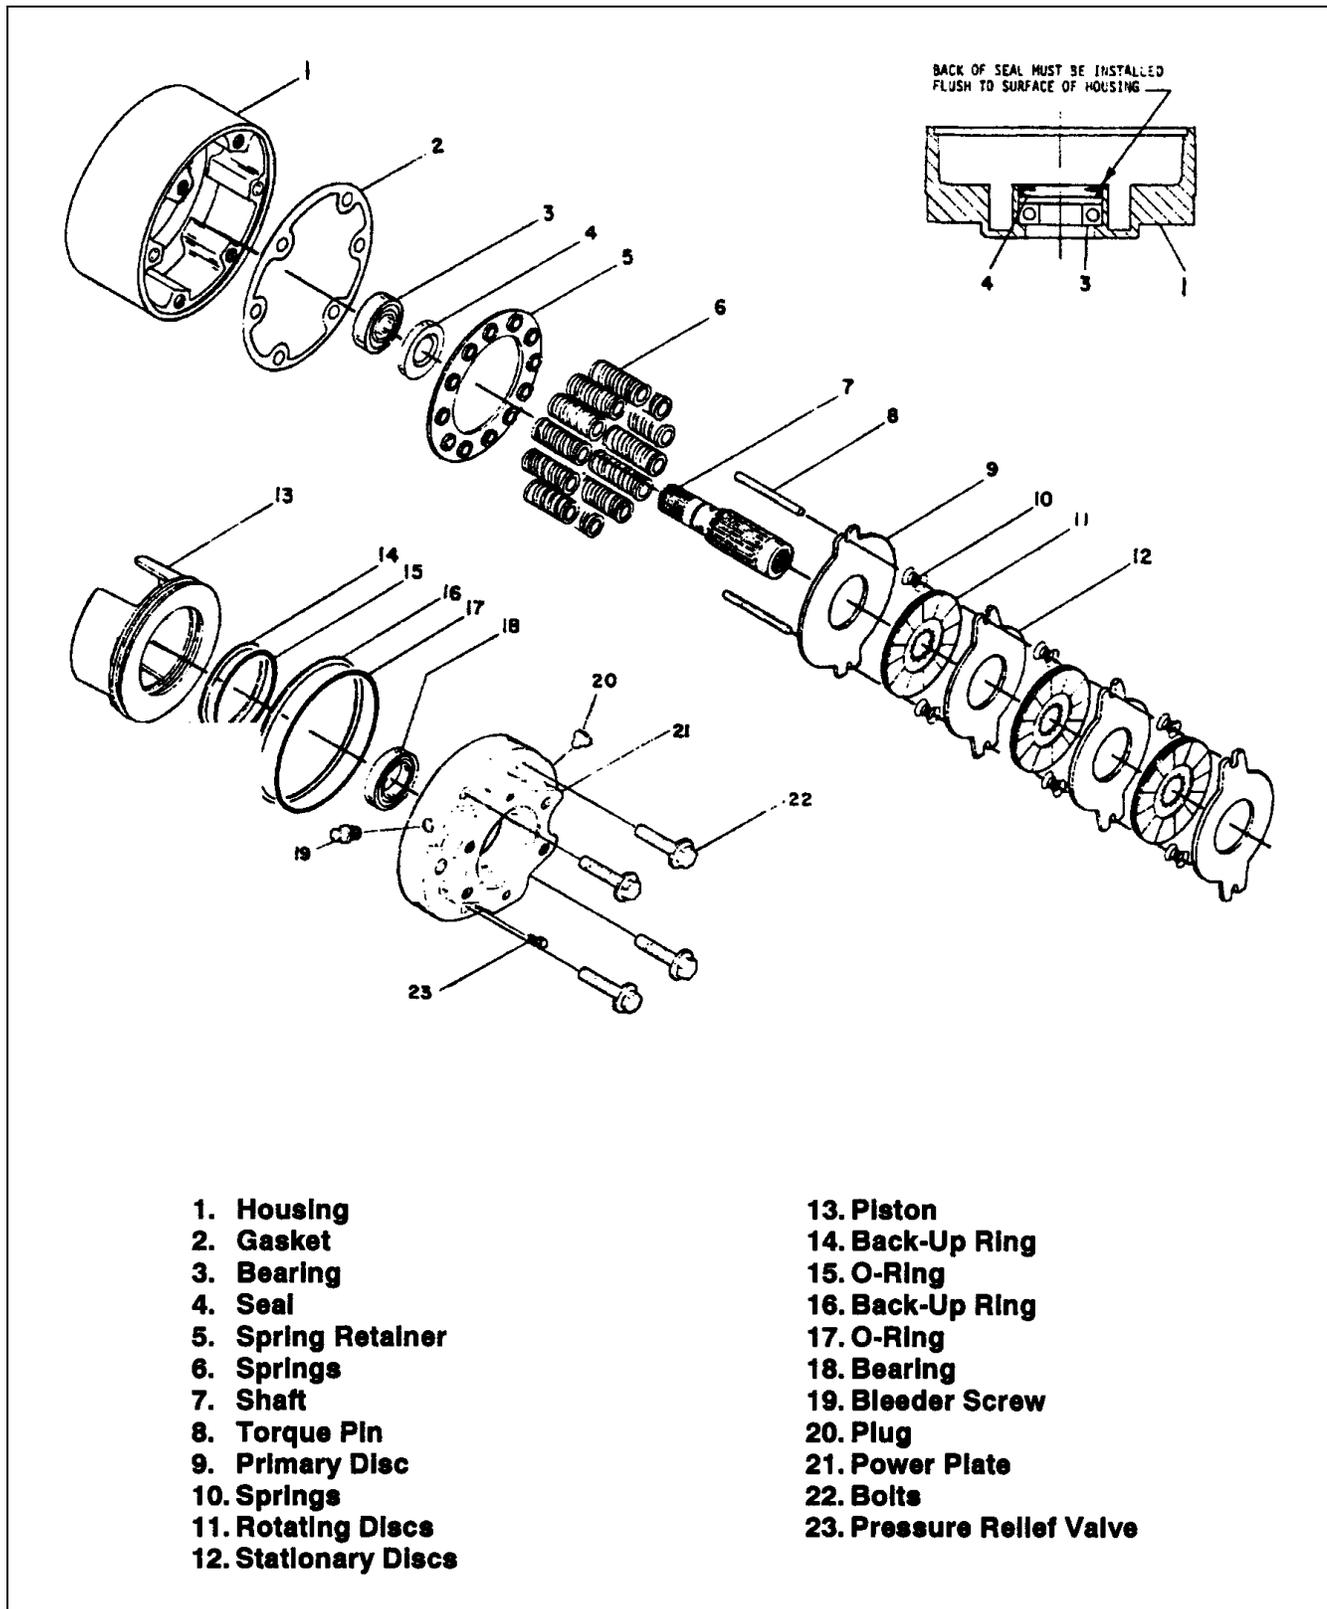

Figure 2-41. Swing Brake Assembly - Ausco (Machines Built Prior to May 1992).
2.28 SWING DRIVE BRAKE, AUSCO (MACHINES BUILT PRIOR TO MAY 1992). (SEE FIGURE 2-41.)